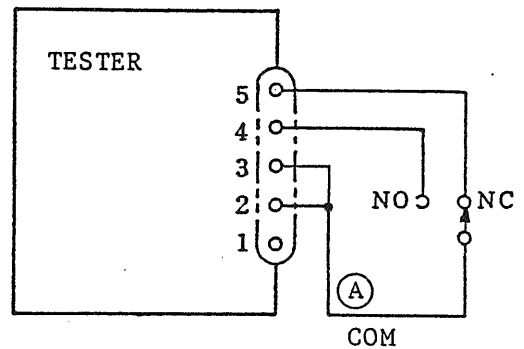

Figure 4.6
- ③ In the case of the setup shown in Figure 4.6, the test voltage is turned on when the switch is thrown to the NO Position, and instrument is forcefully reset when the switch is returned to the NC position.